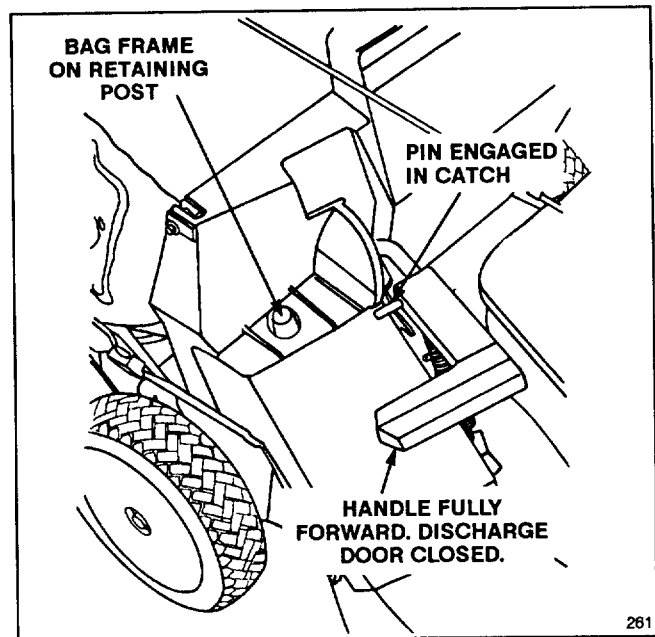

Figure 12
2. Ensure chute door handle is fully forward and pin is engaged in catch (Fig. 12).
3. **INSTALLING BAG**—Slide hole in bag frame onto retaining post on housing (Fig. 12) and set rear of bag frame onto lower handle.
5. **EMPTYING BAG** — Stop engine and wait for all moving parts to stop. Raise discharge door handle and move it forward to engage the locking pin with catch (Fig. 12). Grasp handle at front and rear of bag and lift bag off mower. Gradually tip bag forward to empty clippings.